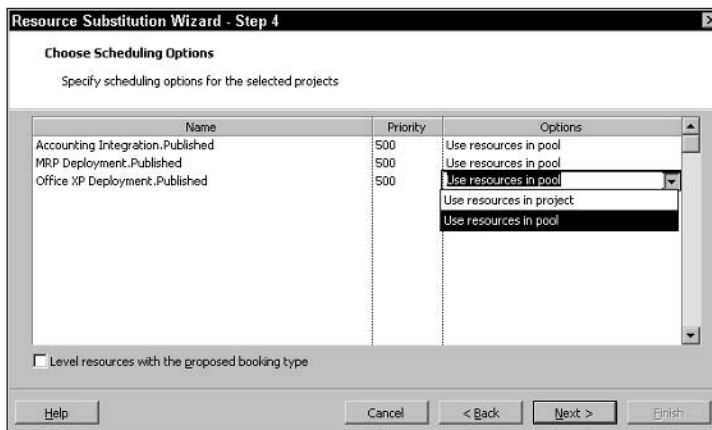

Figure 20-25: Specify options for rescheduling.
- Specify options for the wizard to use when rescheduling, as shown in Figure 20-25. You can set the priority or choose to use resources from the pool or from the project. Click Next.
By selecting the check box at the bottom of Figure 20-25, you can also level resources set up with a booking type of “proposed.”